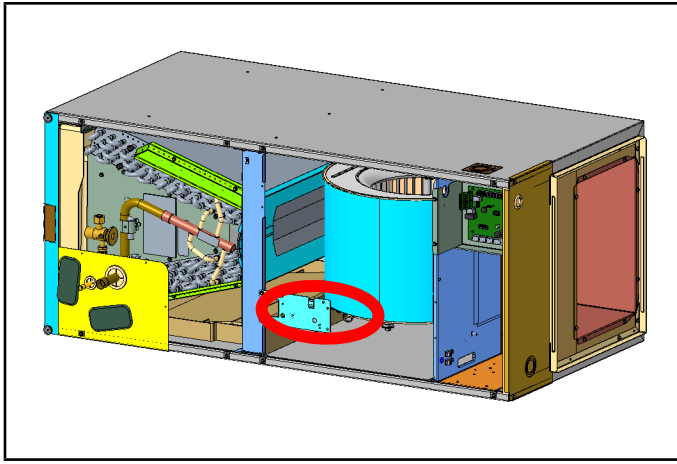

Figure 9
- 3 - With air handler unit panels removed, install sensor bracket assembly to the unit by lining up holes in the center support bracket as shown in Figure 9. Note: sensor should be facing toward the inside of the unit.